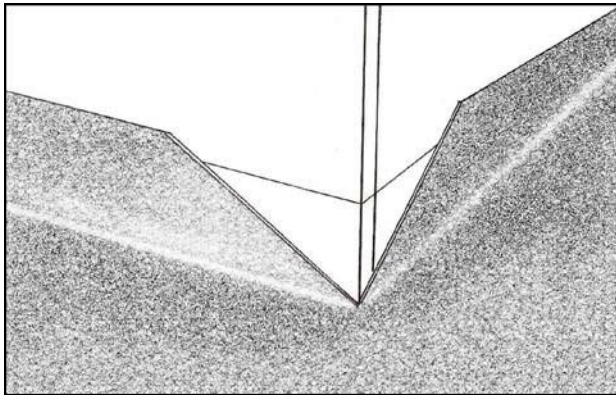

Fig 13.
3. Fold the material around the corner and cut another 45 degree angle. (See Fig 13.)